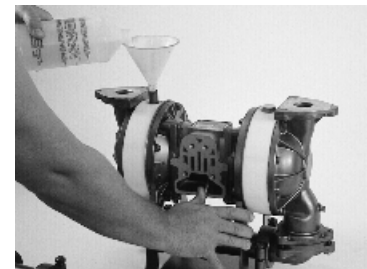

Fig. 3 Filling the driver chamber
1. Filling is accomplished through the pipe plugs at the top of the liquid driver chamber (see Figure 3).